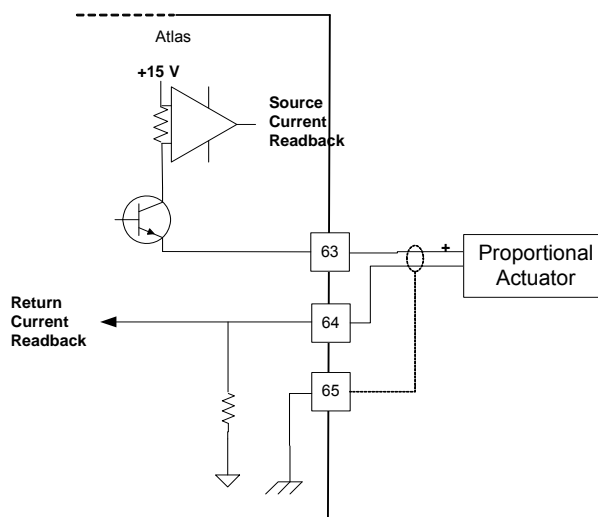

Figure 4-13. Example—Actuator Output, SmartCore CPU A5200 Board
- Refer to Figure 4-13 for actuator output wiring.